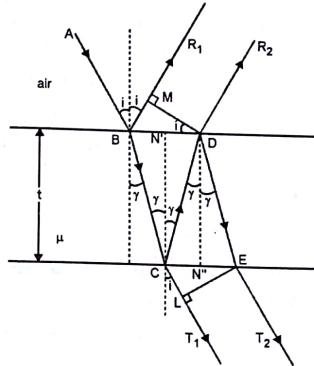

Fig. 1.3.1 : Interference in thin films
- Consider a ray AB of monochromatic light of wavelength  $\lambda$  from an extended source incident at B, on the upper surface of a parallel sided thin film of thickness  $t$  and refractive index  $\mu$  as shown in Fig. 1.3.1.
From Fig. 1.3.1 we have  $\text{BC} = \text{CD} = \frac{t}{\cos r}$
- The transmitted rays  $CT_1$  and  $ET_2$  are also derived from the same incident ray  $AB$  and hence are coherent. (Fig. 1.3.1)
- When they interfere, they can give the interference pattern in transmitted system. To find the path difference between  $CT_1$  and  $ET_2$  we drop  $EL$  perpendicular to  $CT_1$ . See Fig. 1.3.1.